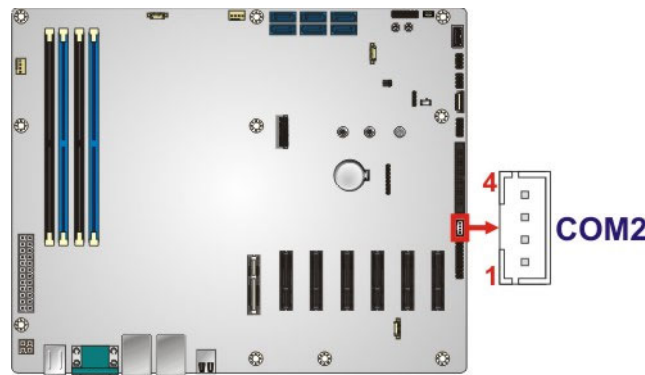

Figure 3-22: RS-422/485 Serial Port Connector Location
- CN Location:** See **Figure 3-22**